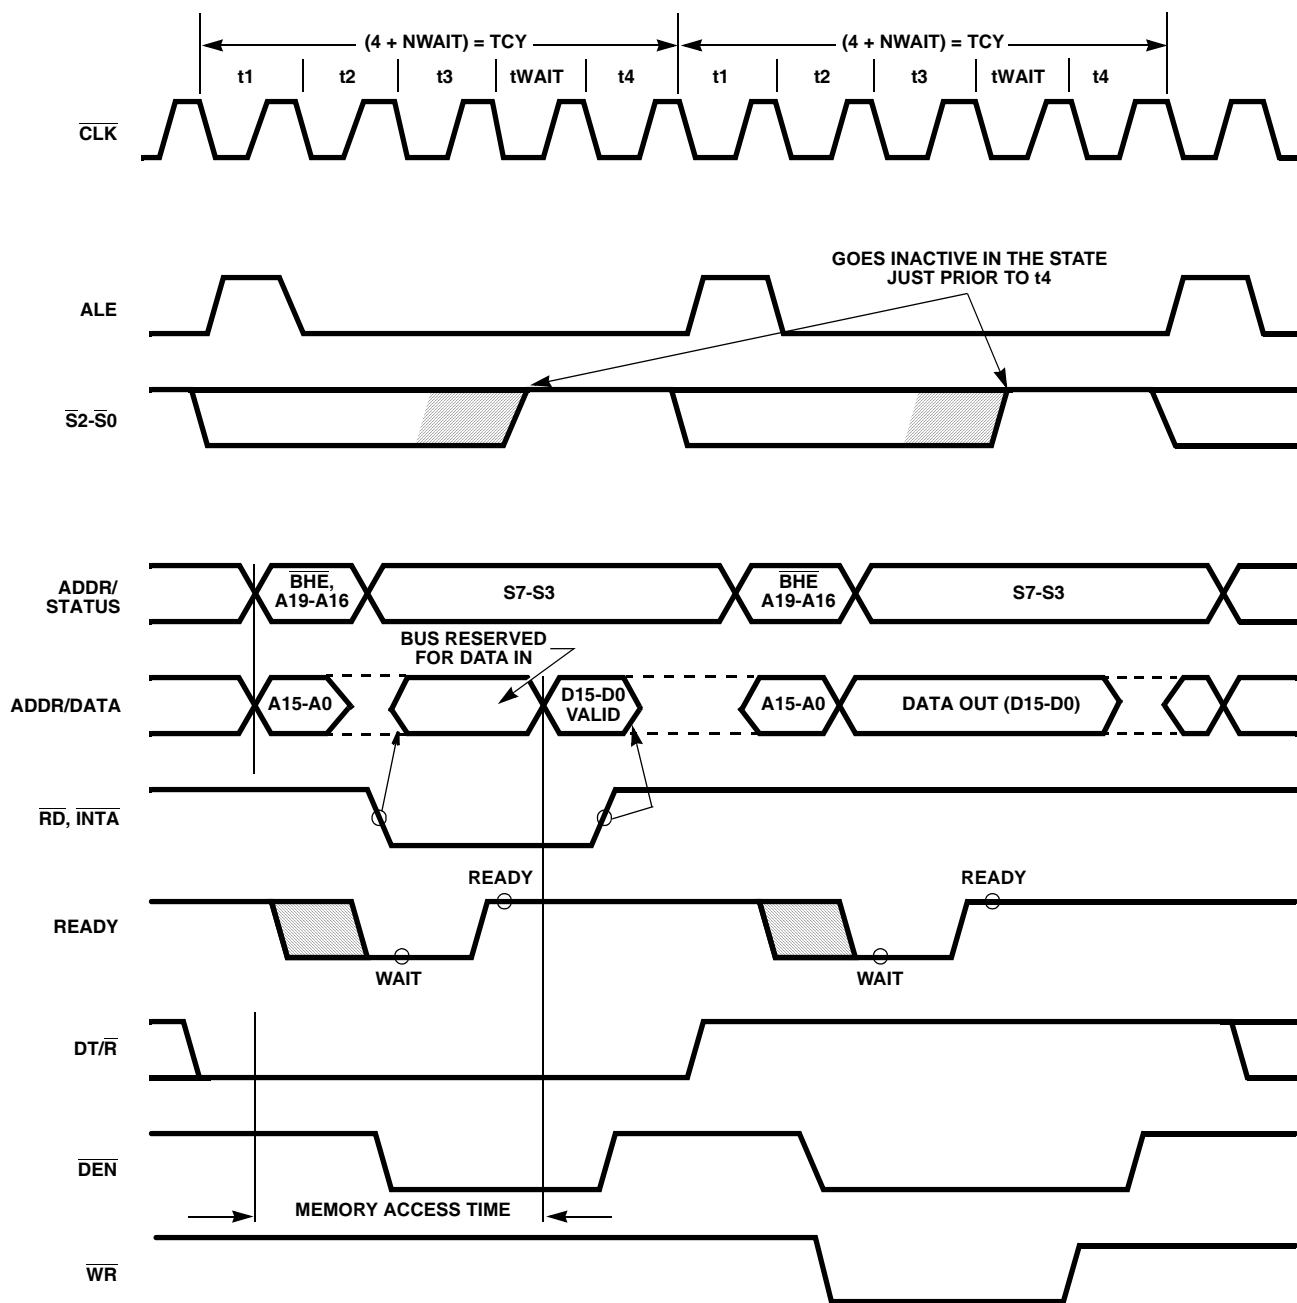

FIGURE 3. BASIC SYSTEM TIMING
Each processor bus cycle consists of at least 4 CLK cycles. These are referred to as t1, t2, t3 and t4 (see Figure 3). The address is emitted from the processor during t1 and data transfer occurs on the bus during t3 and t4. t2 is used primarily for changing the direction of the bus during read operations. In the event that a "NOT READY" indication is given by the addressed device, "Wait" states (tW) are inserted between t3 and t4. Each inserted wait state is the same duration as a CLK cycle. Periods can occur between 80C86 driven bus cycles. These are referred to as idle" states (TI) or inactive CLK cycles. The processor uses these cycles for internal housekeeping and processing.
Typical system configurations for the processor operating in minimum mode and in maximum mode are shown in Figures 6A and 6B, respectively. In minimum mode, the MN/MX pin is strapped to VCC and the processor emits bus control signals (e.g.  $\overline{RD}$ ,  $\overline{WR}$ , etc.) directly. In maximum mode, the MN/MX pin is strapped to GND and the processor emits coded status information which the 82C88 bus controller uses to generate MULTIBUS compatible bus control signals. Figure 3 shows the signal timing relationships.